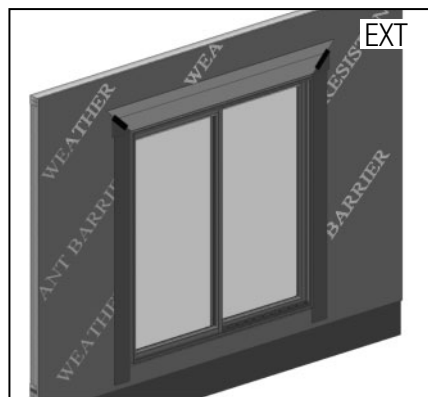

FIG. 20
- E) Tape the cut seams of the WRB. (Fig. 20)